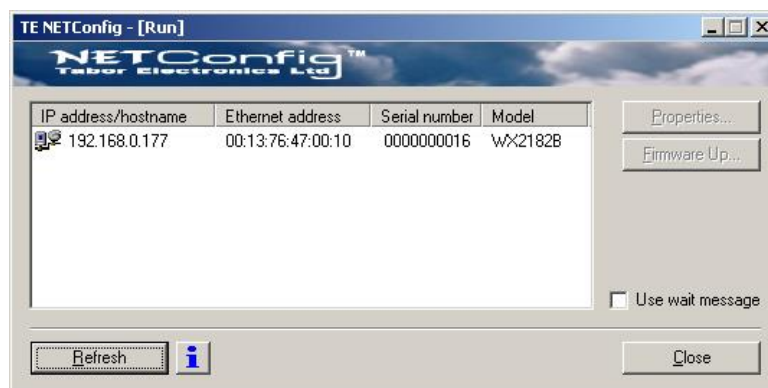

Figure 6-6, WX2184 has been Detected on the LAN Network
5. As soon as the progress bar reaches the far right-hand side of the bar, click on the Refresh button. If your device was connected and booted correctly, the device address will appear in the device list, as shown in Figure 6-6.